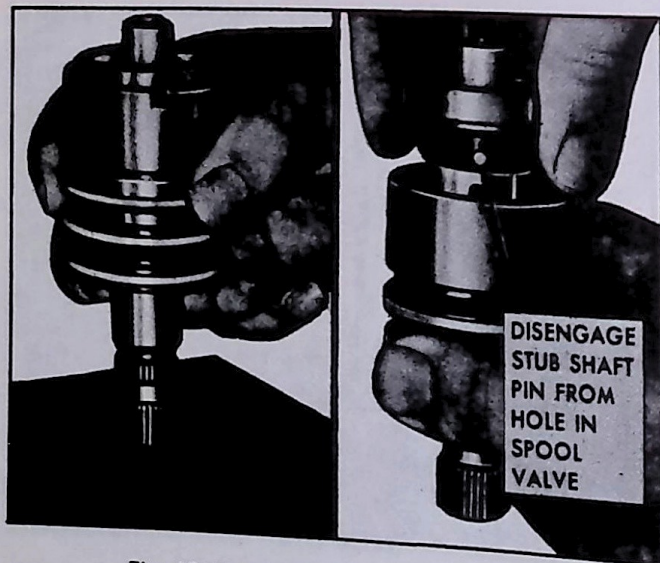

Fig. 43-Removing Stub Shaft Assembly
- a. While holding the assembly (stub shaft down), lightly tap the stub shaft against the bench until the shaft cap is free from the valve body (fig. 43).
- c. Carefully disengage the shaft pin from the valve spool and remove the shaft assembly (fig. 43).